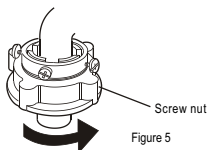

Figure 5
5. Twisting the fastening nut, See to Figure 5. After twisting, the threading is less than 2mm above the upper surface of the nut.